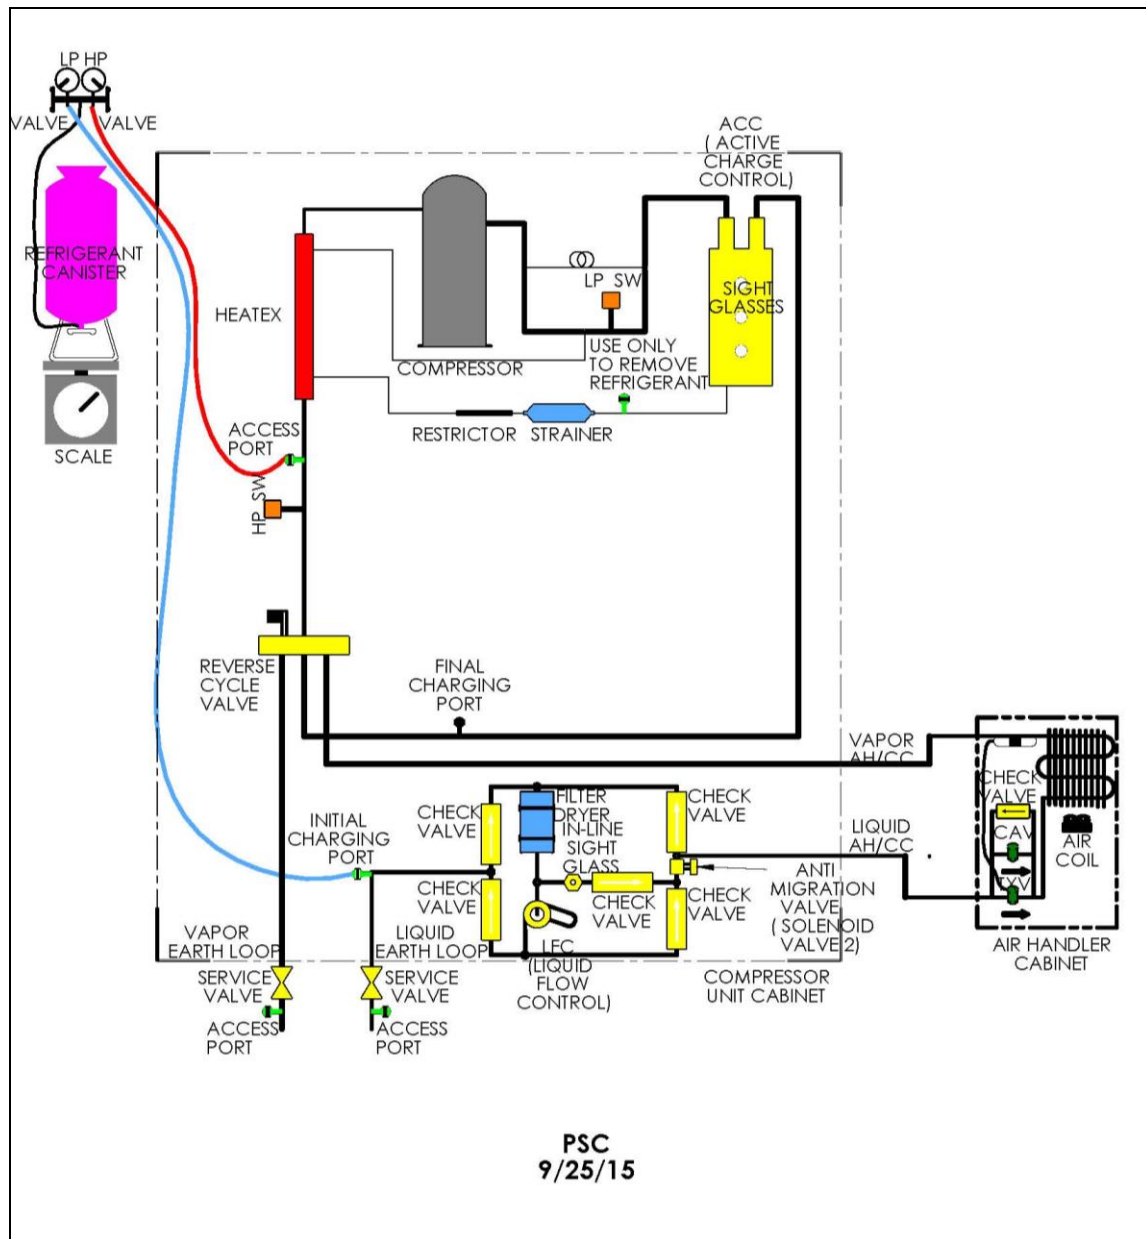

Figure 27. Initial Charge of PSC System
1. Disconnect the vacuum pump and isolate the digital vacuum gage. Connect the refrigerant container to the charging hose of the manifold gage set as shown in Figure 27.
2. Place the refrigerant container upside down, with the refrigerant valve at the bottom, on the scale, as shown in Figure 27. Purge the charging hose by loosening it at the manifold end, until refrigerant is released. Tighten the charging hose and zero out the refrigerant scale.